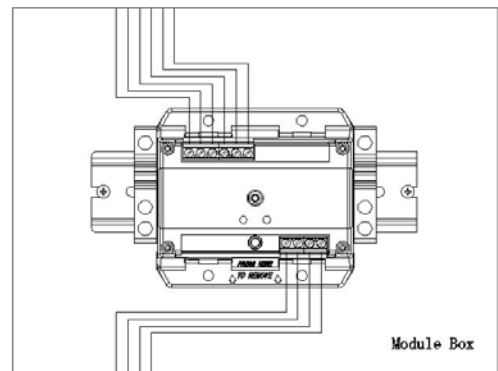
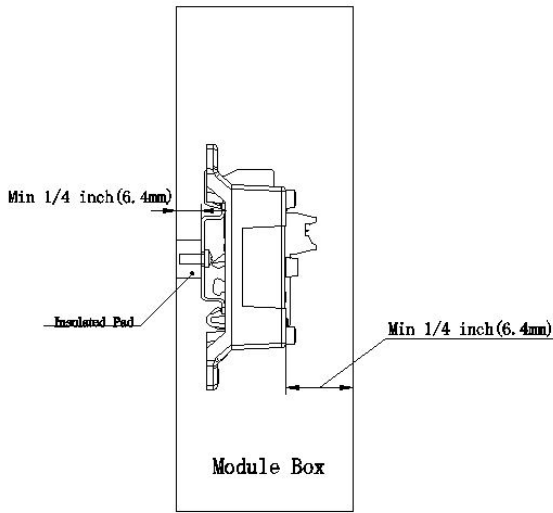

Fig. 2
Fig. 3
- 2) The module shall either be installed in a North America standard metal electrical box. Minimum size is 4 in. square, 2-1/8 in depth (in this case, standard box cover is required), or in a UL Signaling Listed enclosure that provides minimum wiring entries and spacing as shown on Fig 2 and Fig 3. Minimum mounting space is 67x40.5mm.